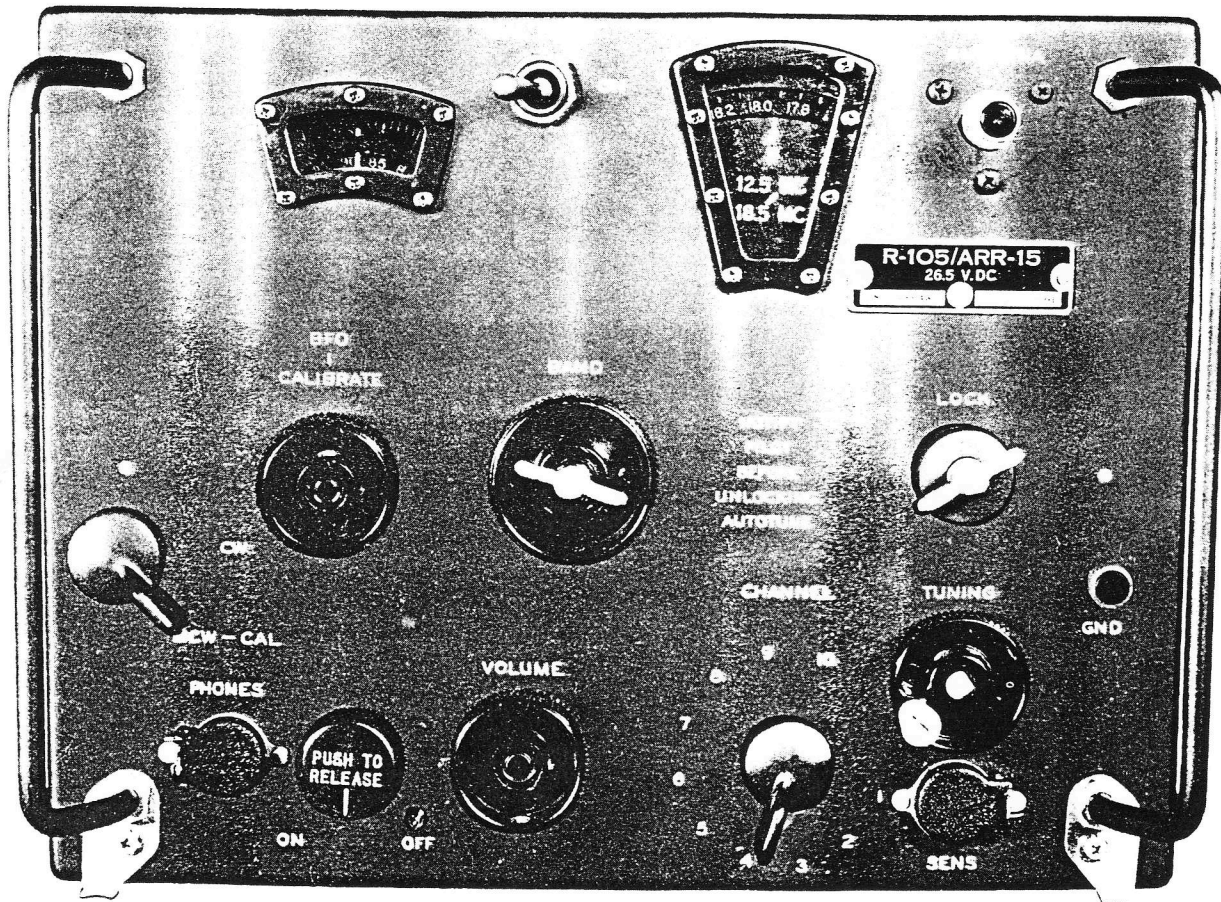

Figure 3-1. Panel Control Functions
a. PANEL CONTROL.—(See figure 3-1)
(1) Insert the headphones cord plug into the PHONES jack.
(2) Rotate the ON-OFF switch to the ON position.
(3) Select the AUTOTUNE channel corresponding to the frequency upon which reception is desired.
(4) Rotate the CW-MCW-CAL selector switch to the position corresponding to the type of reception desired.
(5) Regulate the audio level with the VOLUME control.
(6) Press the ON-OFF control to turn the receiver off.